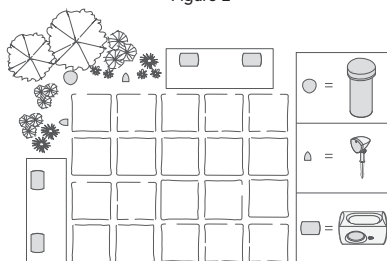

Figure 4
- Combined with Definitive Technology AW Series under-eave outdoor speakers (see Figure 4)